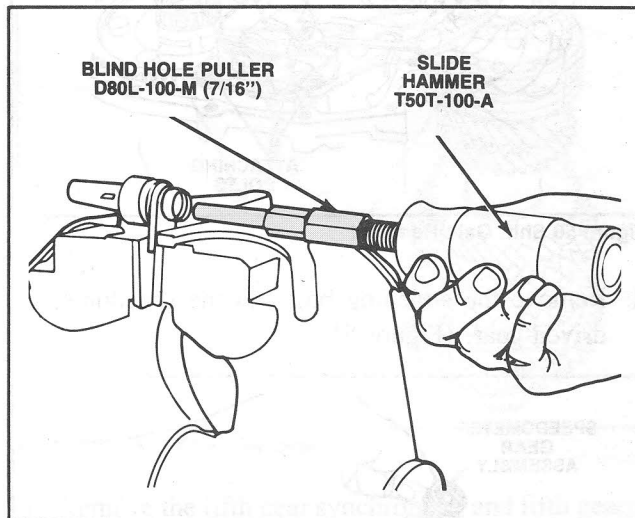

Figure 58 Speedometer Shaft Seal Removal
- Speedometer Shaft Seal (Figure 58).